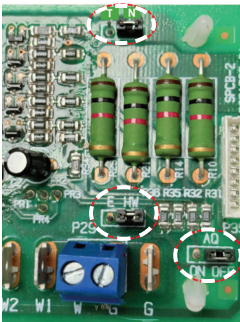

FIGURE 11.3
Fig.11-3 provides a schematic of the control board present in the unit. The unit ships from the factory with the aquastat jumper (AQ) in the OFF position (right two pins) and the heating selector in the HW position (right two pins). If an aquastat (AQ) is used in the application, the jumper should be changed to the ON position (left two pins). Terminals T and N located on the top right side of the board are not intended for field use and should be left disconnected.